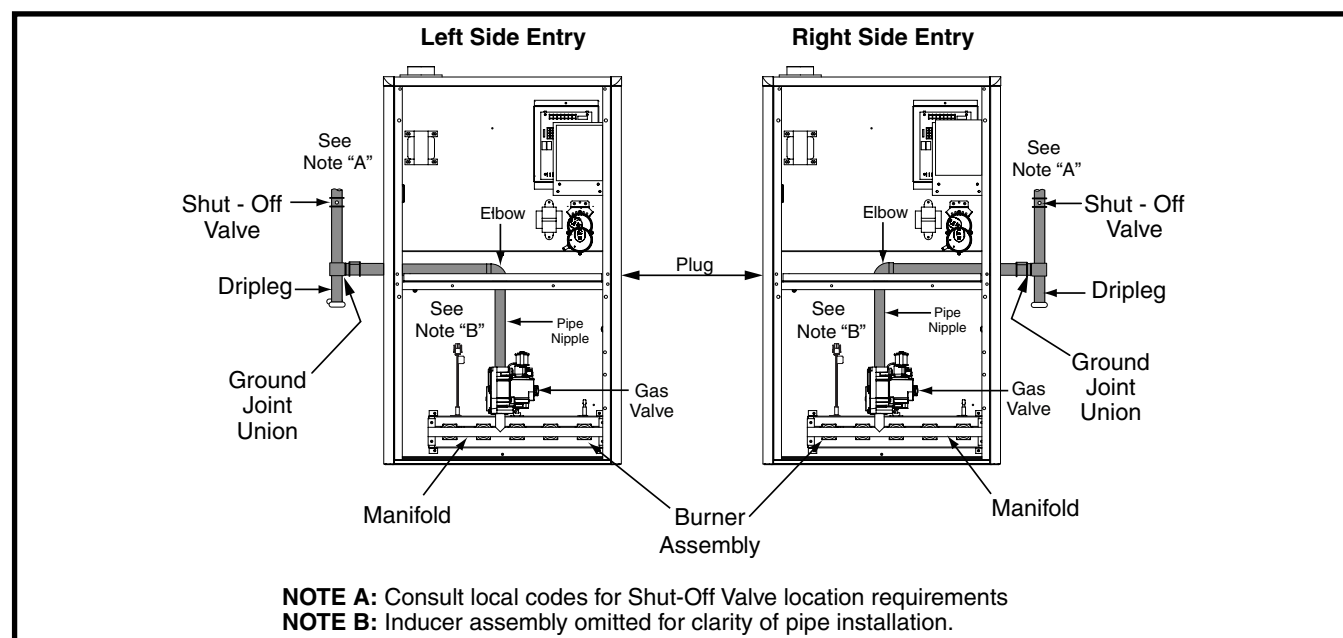

Figure 15. Typical Gas Connections
- Some local regulations require the installation of a manual main shut-off valve and ground joint union external to the furnace. The shut-off valve should be readily accessible for service and/or emergency use. Consult the local utility or gas supplier for additional requirements regarding placement of the manual main gas shut-off. See Figure 15 \(page 18\).
- A drip leg should be installed in the vertical pipe run to the unit. See Figure 15.
furnace casing to avoid unwanted noise and/or damage to the furnace. Typical gas hookups are shown in Figure 15.